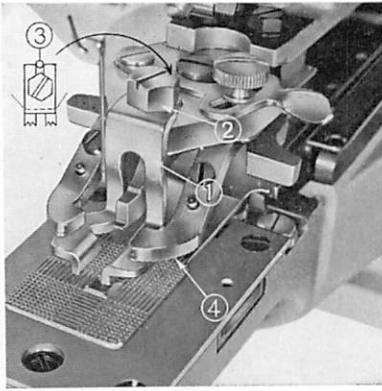

Fig. 30
(ii) *How to install the wrapped-around button clamp* (Fig. 30, 31, 32)
a. Attaching the button attaching attachment (Fig. 30)